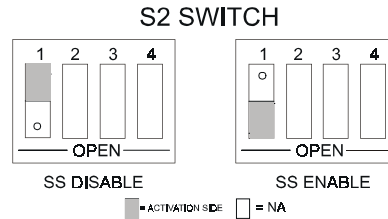

Figure 29 - SOFT START BY LOW TENSION SWITCH SETTINGS
- a. No external electrical connections are needed for actuation. Set S2 (on control card) switch as in Fig. 29.